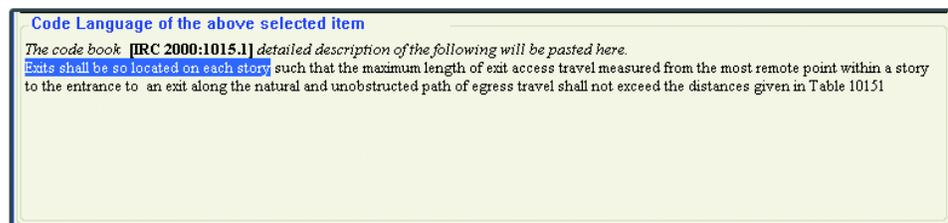

Figure 4-11 Highlighted code language
1. Highlight the code language text that you want to associate with the inspection in the Code Language section (Figure 4-11).